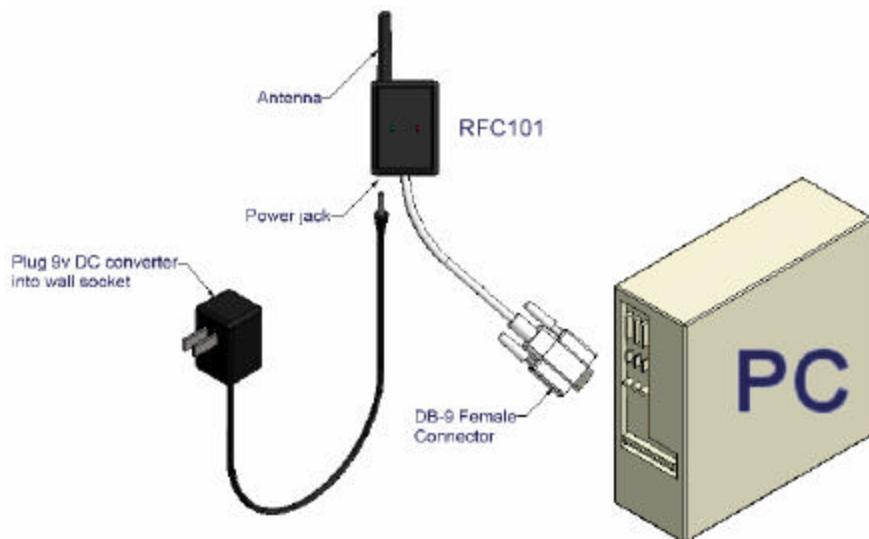

Fig. 1
1. Connect the 9 pin RS232C connector of the RFC101 to an empty COM port on the PC as shown in Figure 1.